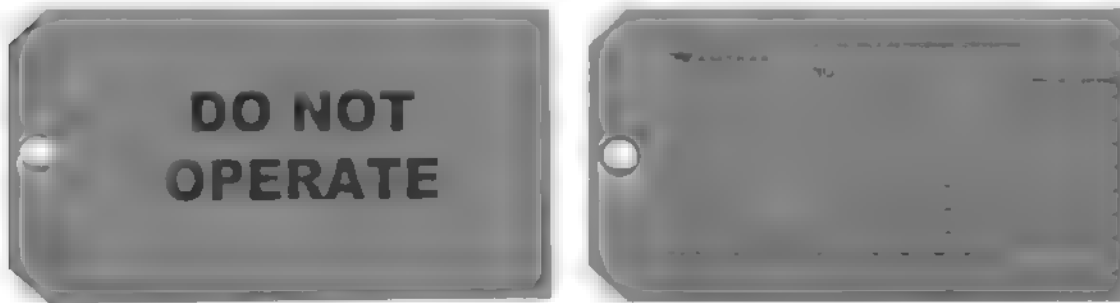

Figure 20 - DO NOT OPERATE TAG (NEC 105)
- 4.122** Do Not Operate Tags (NEC-105) and blocking devices will not be removed except as instructed by the Power Director. Employee will complete removed tags as follows (See Figure 20):